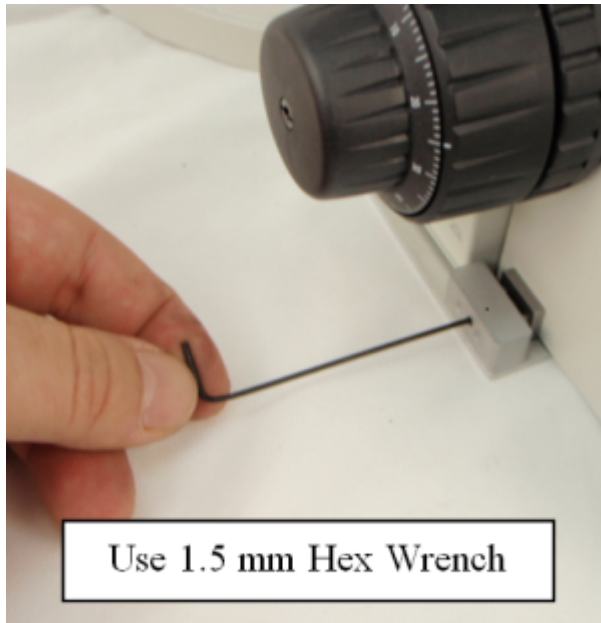

Figure 4d
- c) Once aligned, lock the baseplate into position by tightening the set screw on the right hand side of the scope with a 1.5mm Hex wrench (figure 4d).